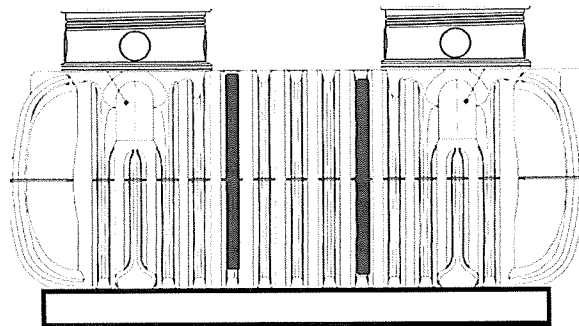

Fig 4
- Refer to fig 4 for details on corner tie down points for RMT-500 and RMT-750 tanks.